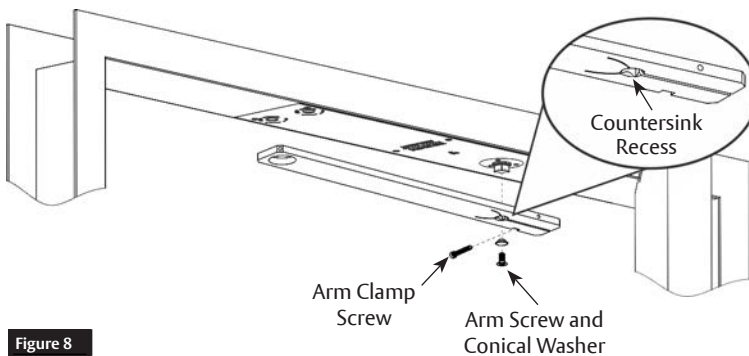

Figure 8
1. Attach arm to closer shaft with 1/4-20 x 3/4" FH-Allen w/Nylon Patch screw and washer. Tighten securely. (Figure 8)
2. Insert 10-24 x 1-1/2" socket head cap screw into arm and clamp arm tightly to pinion square. (Figure 8)